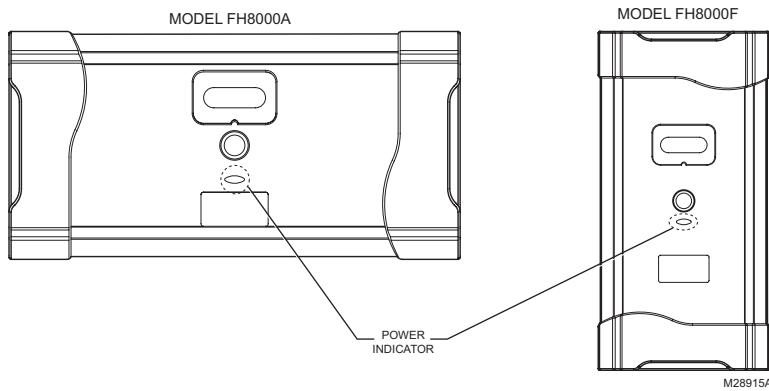

Fig. 17. Power Indicator
- The power indicator light below the Honeywell Enhanced Air Cleaner power switch will illuminate (see Fig. 17).
The Honeywell Enhanced Air Cleaner is equipped with a power indicator light located on the door (see Fig. 17 on page 19). This power indicator light illuminates when the Honeywell Enhanced Air Cleaner door is installed, the power switch is in the on position, AND the air handler blower or furnace blower is running and (for FH8000A) airflow is sensed. If the power indicator light is not illuminated, follow the troubleshooting steps below.